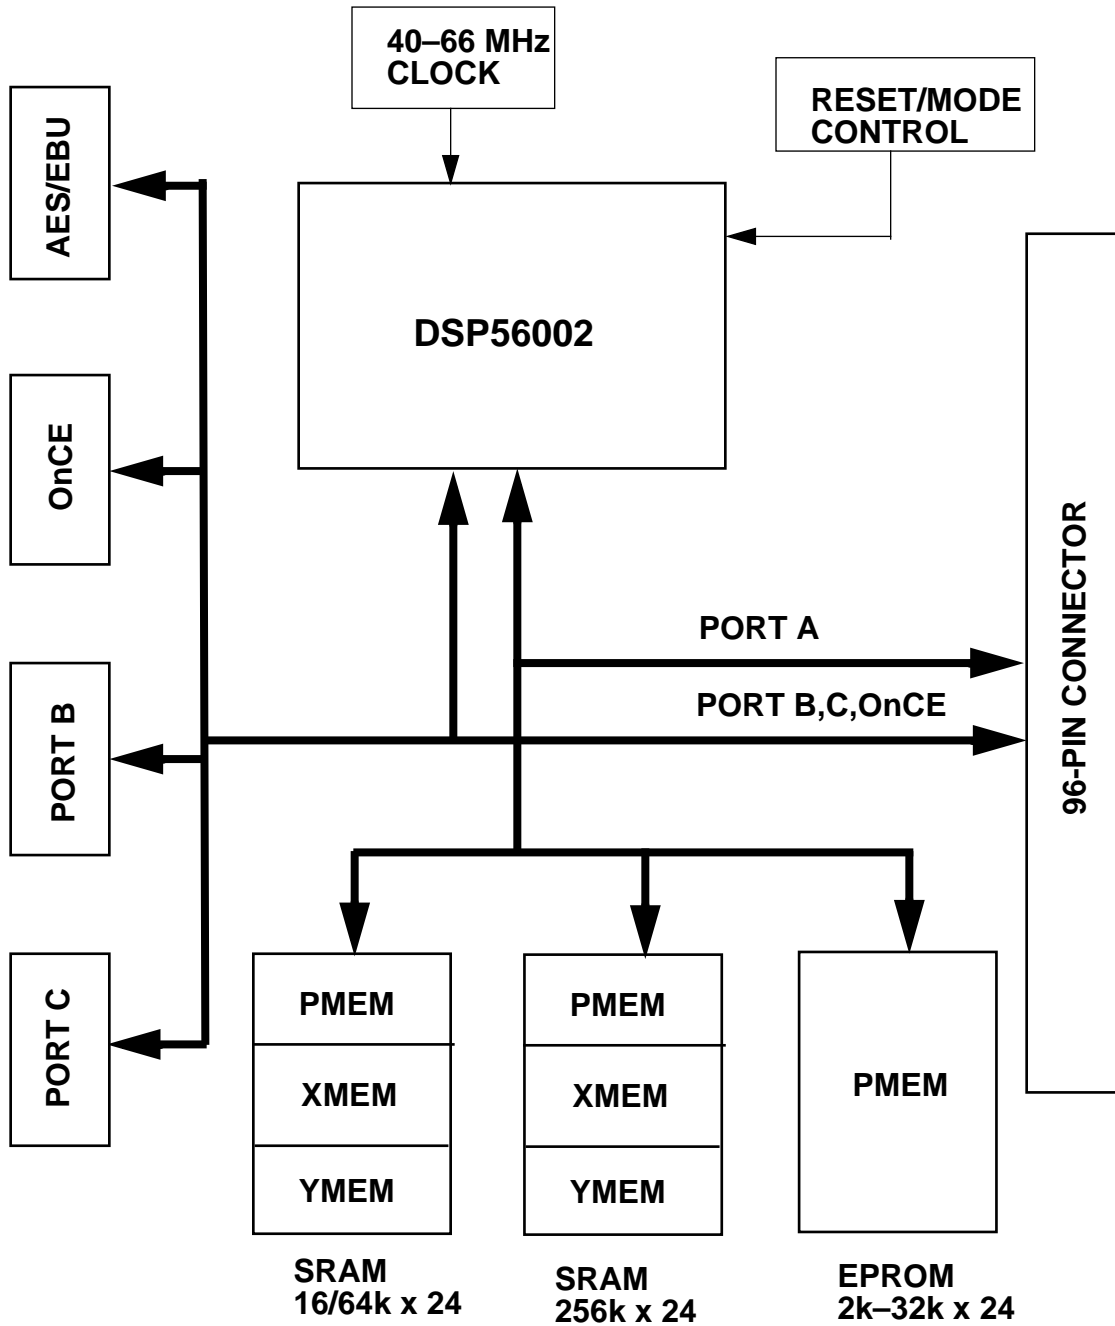

Figure 2-1 DSP56002ADM Block Diagram
**Figure 2-1** on page 2-5 illustrates the ADM architecture. Memory decoding is minimal to achieve zero wait accesses. Therefore, memory may overlap into other address blocks within a 32 K address space. There are a variety of jumper options for partitioning the memory to make it appear in all three Digital Signal Processor (DSP) memory maps.